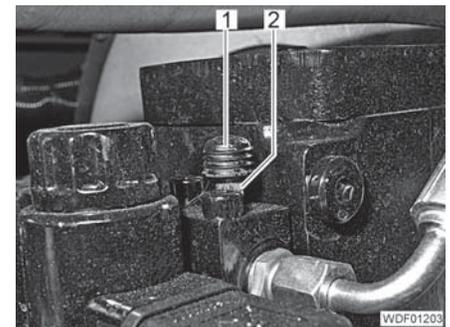

Fig. 140 Variable displacement pump venting nipple
- Build up the pressure and release it via the variable displacement pump venting nipple (Fig. 140,2) as often as necessary until the brake fluid emerges without any bubbles at the venting nipple.
- Place the protective cap (Fig. 140,1) onto the venting nipple.